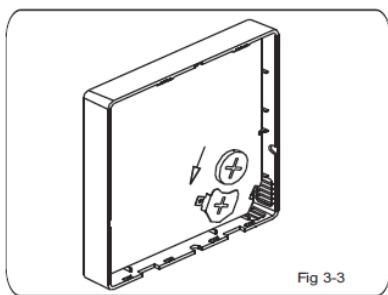

Fig 3-3
4. Put the battery into the installation site and make sure the positive side of the battery is in accordance with the positive side of installation site. (See Fig. 3-3)